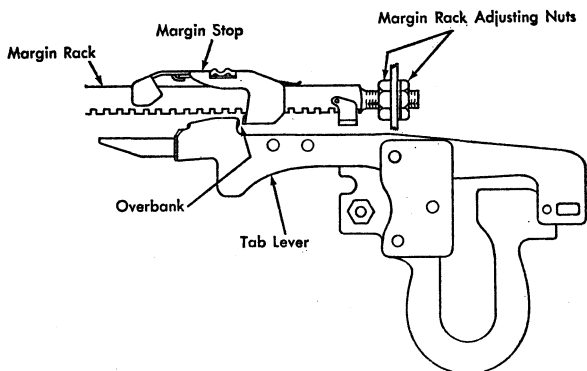

Figure 36. Overbank Adjustment
OVERBANK is adjustable by moving the margin rack to the left or right after having loosened the rack nuts at the ends of the carriage. The rack should be positioned so that when the carriage is moved slowly to a position of contact between the left margin stop and the flat top of the tab lever, the escapement pawl will click into the escapement rack under the carriage at the instant of contact. No pressure should be exerted to force the tab lever during this test (Figure 36).
11. **ADJUST THE MARGIN RACK FOR OVERBANK** to the right or left so that when the carriage is moved slowly to a position of contact between the margin stop and the flat top of the tab lever, the escapement pawl will click into the escapement rack at the instant of contact (Figure 36).
8. **ADJUST THE MARGIN RACK FOR OVERBANK** to the right or left so that when the carriage is moved slowly to a position of contact between the margin stop and the flat top of the tab lever, the escapement pawl will click into the escapement rack at the instant of contact (Figure 36).